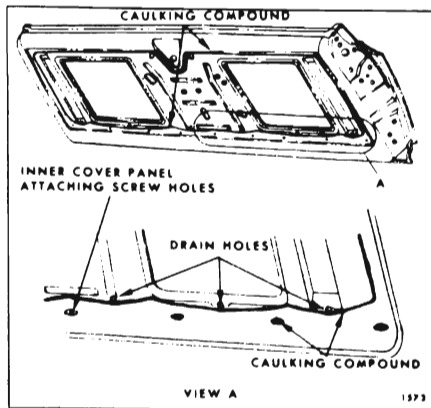

Fig. 9-2—Tail Gate Sealing
3. If needed, apply a bead of body caulking compound (approximately 3/16" diameter) to tail gate inner panel. (See Fig. 9-2). The inner panel cover attaching screw holes should also be sealed with body caulking compound.